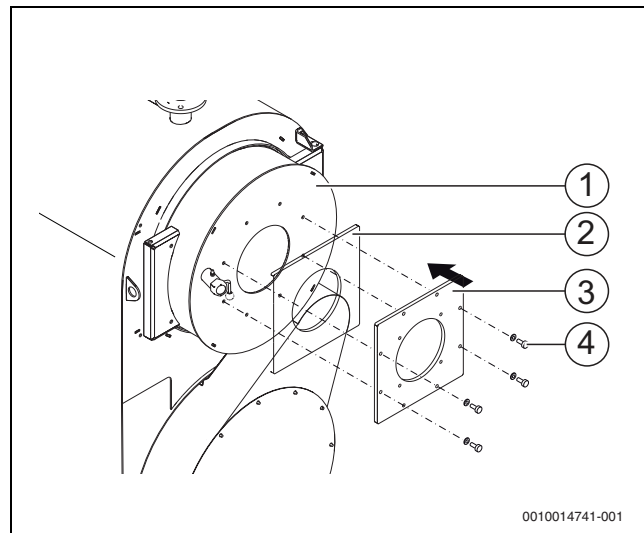

Fig. 16 Fitting the burner plate
- ▶ Fit burner plate (→ Figure 16, [3], page 21) and gasket [2] to the burner door [1] with hexagon bolts and washers [4].